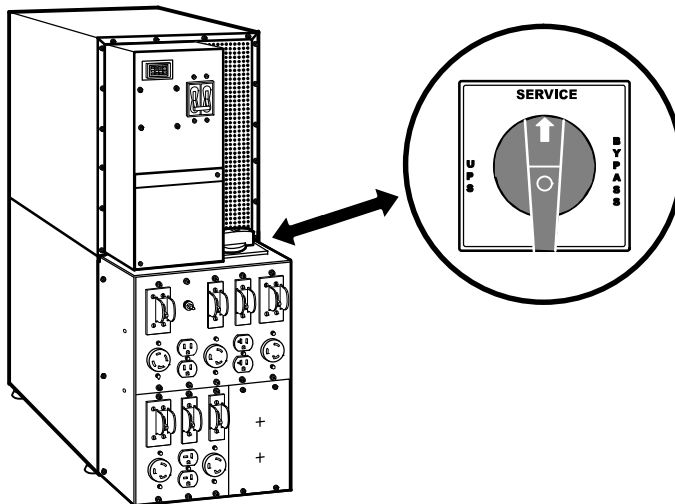

Figure 45. Maintenance Bypass Switch (PDM Shown)
1. If you have an optional MBM/PDM or wall-mounted bypass switch, verify that the maintenance bypass switch is in the UPS position (see Figure 45 on page 68 or Figure 48 on page 73).
1. Verify that the maintenance bypass switch is in the BYPASS position (see Figure 45 on page 68).
The UPS-mounted maintenance bypass switch is part of the optional Maintenance Bypass Module (MBM) or Power Distribution Module (PDM) and is located on the back of the UPS (see Figure 45).